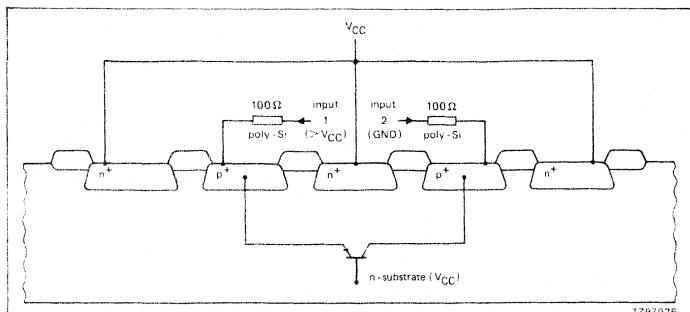
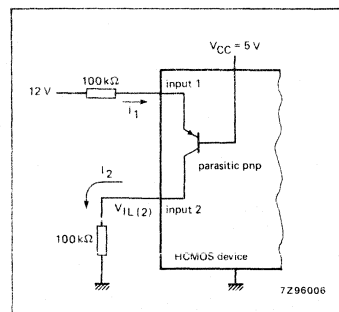

Fig. 30 Cross-section of the input protection of an HCMOS device showing the parasitic pnp transistor between adjacent inputs.
Fig. 31 12 V-to-5 V logic-level conversion at HCMOS inputs using 100 kΩ series resistors.
Parasitic bipolar pnp transistors can be present between adjacent inputs, e.g. between an input protection diode to  $V_{CC}$  and the same diode at the adjacent input, as shown in Fig.30. If the recommended operating input voltage is exceeded, perhaps by ringing of more than 0.7 V, current into the terminal ( $I_1$ ) can cause a current  $I_2$  in the parasitic transistor and in the adjacent input (Fig.31). Because  $I_2$  in the adjacent input has to be drained by the source driving that input, the source resistance (R) must be low. If R is not low enough, the parasitic current can lift the source voltage and cause unwanted switching.
A low  $\alpha$  permits proper logic operation in the presence of transients and also allows HIGH-to-LOW voltage translation simply by adding series input resistors. For example, in Fig.31, 12 V system logic is converted to 5 V system logic by adding a 100 kΩ resistor in each input. Since the logic signals are delayed by 1-2 μs, this arrangement is suitable for rather slow 12 V control logic such as that in automotive applications. When the input diodes are used as clamps for logic level translation, the total input current should be limited to 20 mA.